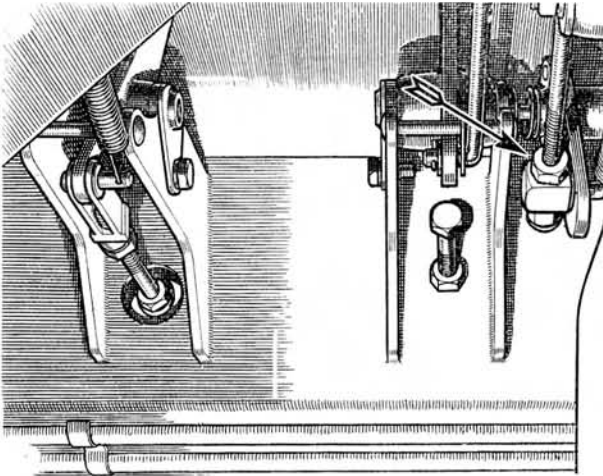

Fig. E.2.
1. At the screwed rod shown in Fig. E.2. In this case, the locknut, is slackened back and the $\frac{3}{4}$ in. (19 mm.) clearance is set at this point.
2. At the clutch stop shown in Fig. E.2, when the clutch is completely withdrawn there must be a further movement of $\frac{1}{2}$ in. (12.7 mm.) at the pedal.